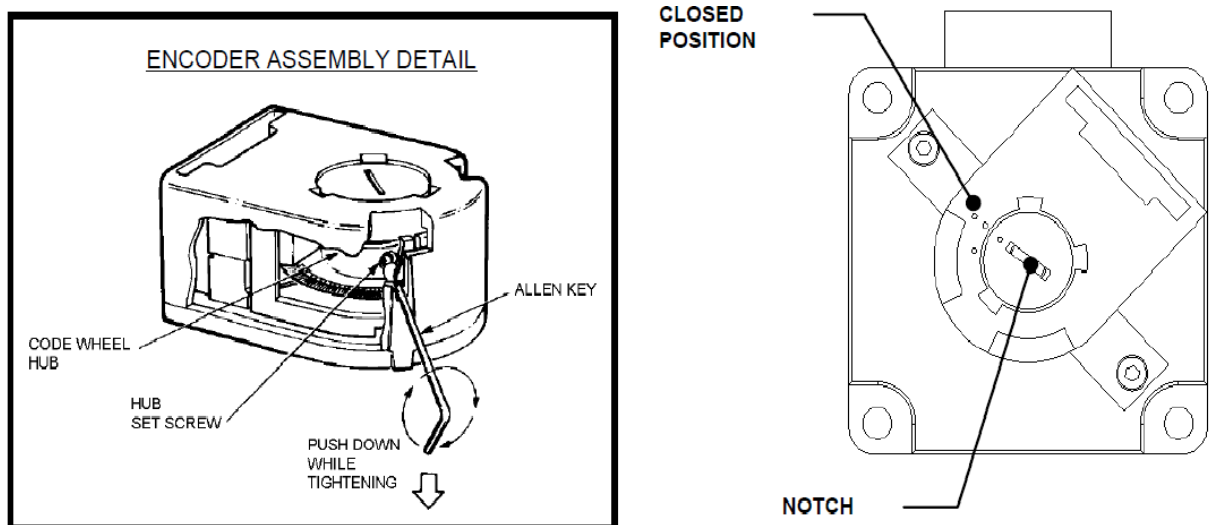

Figure Y-4: Setting the Encoder Position
4. Push the Allen Key into the body of the encoder to ensure that it is properly seated into the code wheel hub set screw (Figure Y-4).